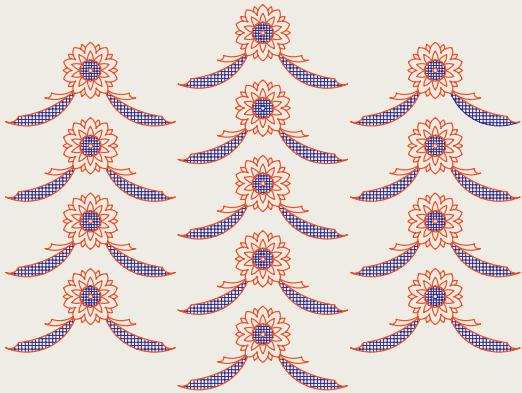

Fig. 10.25 Exercise 1 – original pattern
- Fig. 10.25 shows a pattern formed by inserting an **external reference** and then copying or arraying the **external reference**.